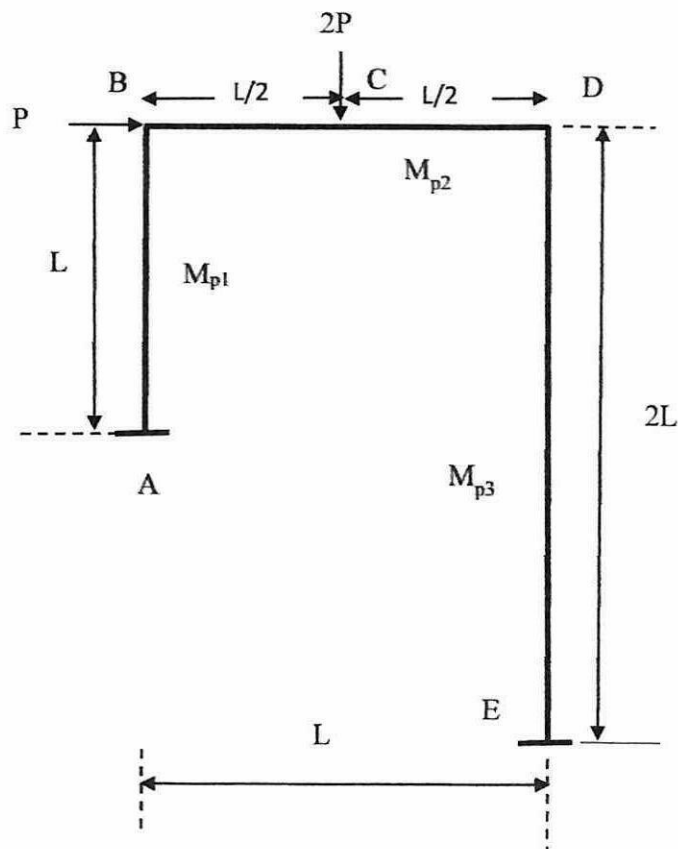

Figure Q4
- (b) **Figure Q4** shows a frame fixed at both columns and loaded with point load  $2P$  at C and point load  $P$  at B. Given  $L=20$  m,  $M_{p1}=30$  kNm,  $M_{p2}=55$  kNm,  $M_{p3}=20$  kNm.